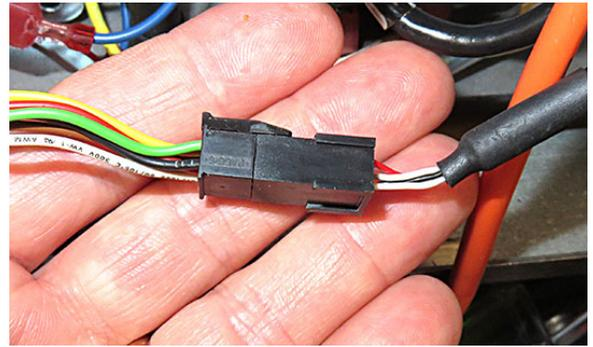

Figure 20
23. Connect the male end of the OQS harness to the adaptor in step 20 (see Figure 20).
27. **Follow the directions included to update the software using the supplied USB drive. There are three (3) steps that MUST be completed to update the software (see instructions included with USB). Failure to follow all three (3) steps may render the fryer inoperable. When software and menu update are complete return to step 28 below.**